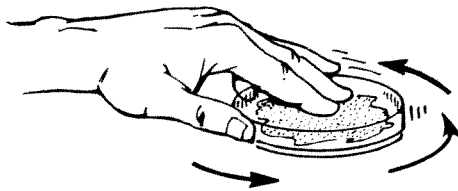

FIGURE 9-6
7. If the medium does not cover the bottom of the plate, rotate the plate on your table in a circle 6 to 8 inches in diameter, as in Figure 9-6.
- If the medium does not cover the bottom of the petri dish, place your fingers flat on the lid of the closed plate. Rotate the plate on the tabletop in a circle 6 to 8 inches in diameter, as shown in Figure 9-6. Rotating the plate moves the melted medium around so it covers the bottom of the petri dish. Do not get the medium on the petri dish lid. The limited amount of medium the tube holds will result in a thin agar plate. From now on, pour thicker plates.